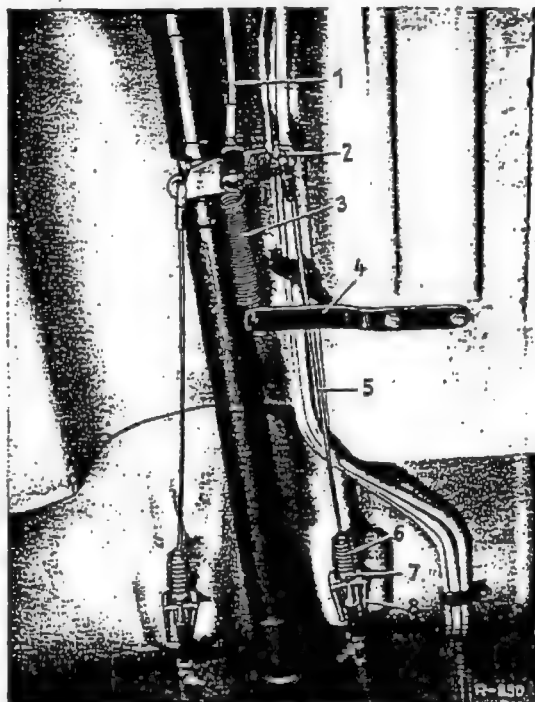

Fig. 42-19/1
3. Detach the return spring (3) from the collar bolt and from the bracket (4) on the chassis base panel (Fig. 42-19/1).
4. Remove the collar bolt from the center brake cable (1) and the equalizer (2).